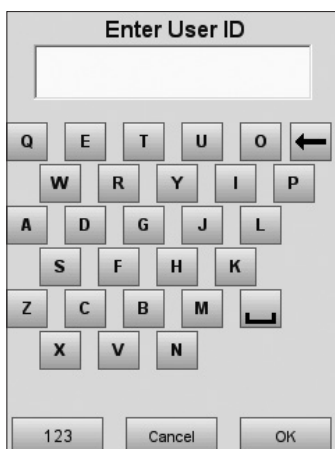

Fig. 7-4 Enter User ID
2. If **<Non Secure User ID Entry>** is enabled in the security settings (see Section 3.2.3), you will be asked to enter the user ID (Fig. 7-4). Depending on security settings, user access to running Hb calibrators may be restricted.